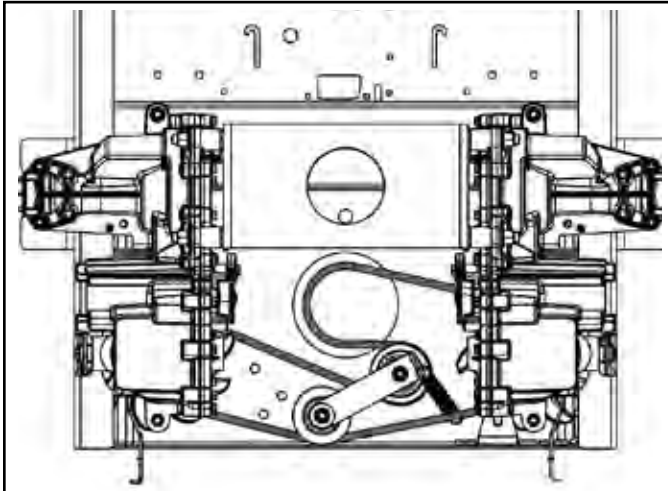

Fig. 056
1. Properly route the belt around the (2) hydro input pulleys, the drive pulley and (2) tensioner / idler pulleys (Fig. 056).